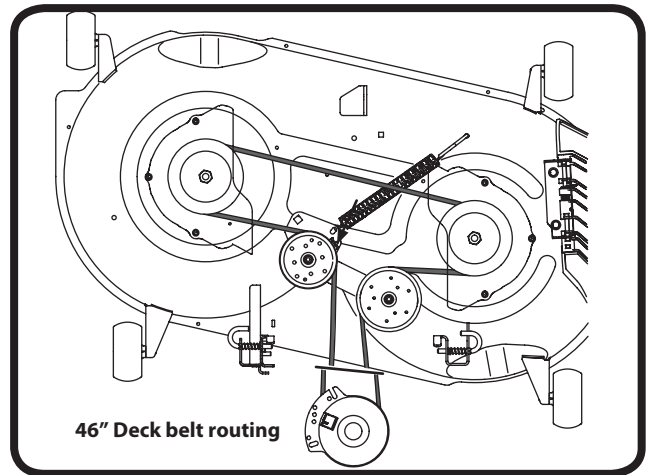

Figure 7.8
4. Route the new belt around the pulleys. See Figure 7.8.